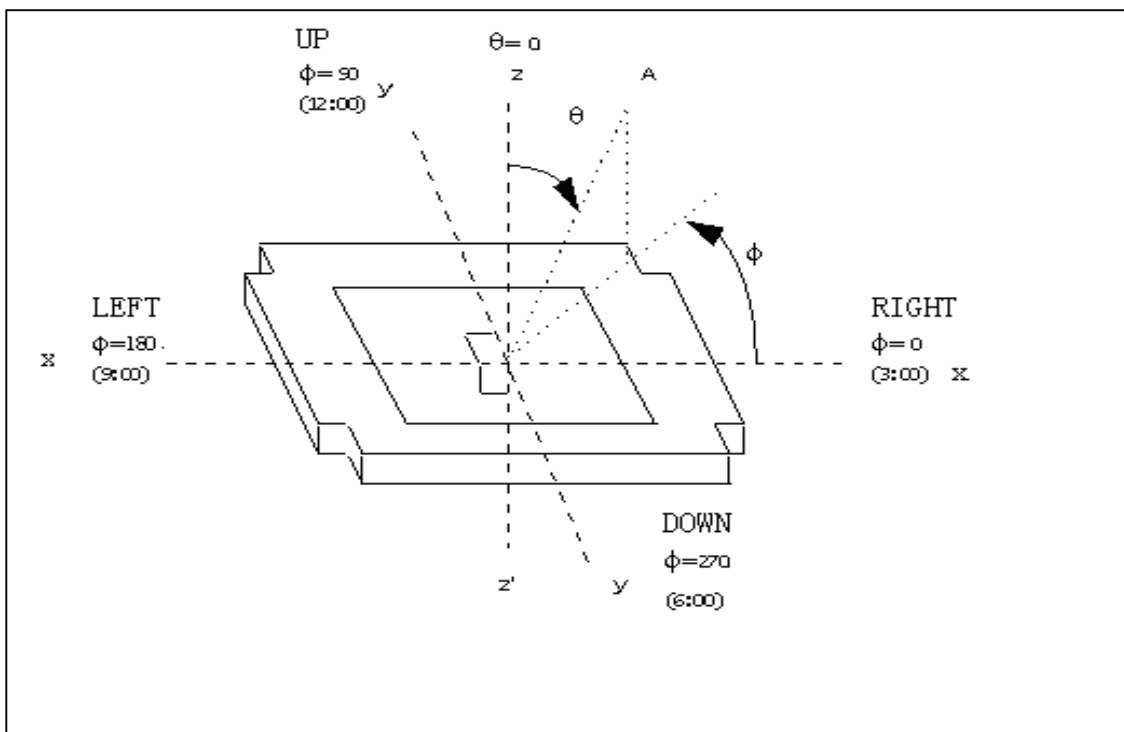

**FIG.2. Measuring method for Contrast ratio, surface luminance, Luminance uniformity , CIE (x, y) chromaticity**
Note 1. Contrast Ratio(CR) is defined mathematically as For more information see FIG 2.:
Note 2. Surface luminance is the LCD surface from the surface with all pixels displaying white. For more information see FIG 2.
Note 3. The uniformity in surface luminance, δ WHITE is determined by measuring luminance at each test position 1 through 5, and then dividing the maximum luminance of 5 points luminance by minimum luminance of 5 points luminance. For more information see FIG 2.